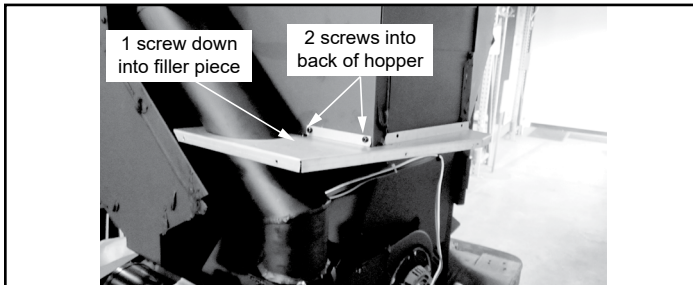

Figure 22.1
4. Install the left shroud panel corner; 2 screws into back of hopper and 1 screw down into the filler piece (**Figure 22.1**).